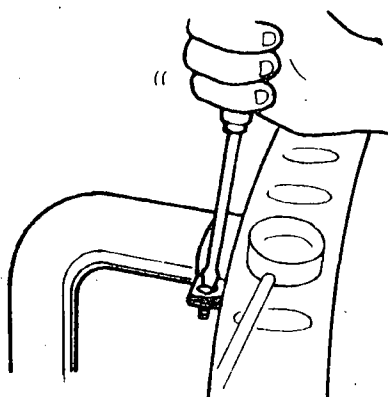

Fig. 3
- a) Loosen the hose clamps (fig. 3).